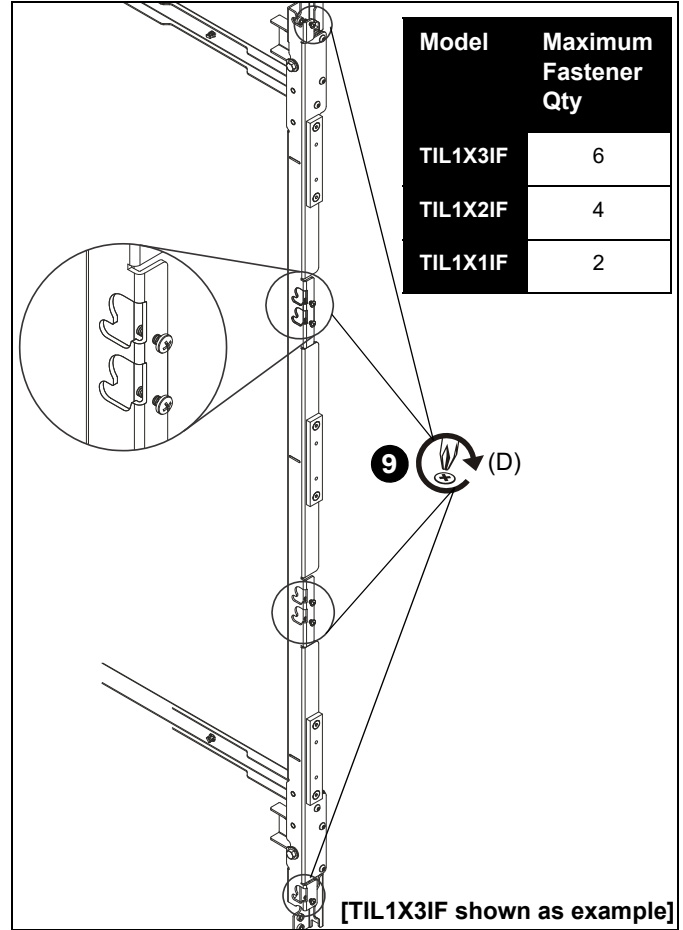

Figure 14
9. **OPTIONAL:** You may loosely install one 10-24 x 5/8" Phillips head screw (C) into right side of mount at each mounting button hole for each LED screen space. (See Figure 14) These fasteners may be helpful if it's necessary to make slight horizontal adjustments of LED screens.